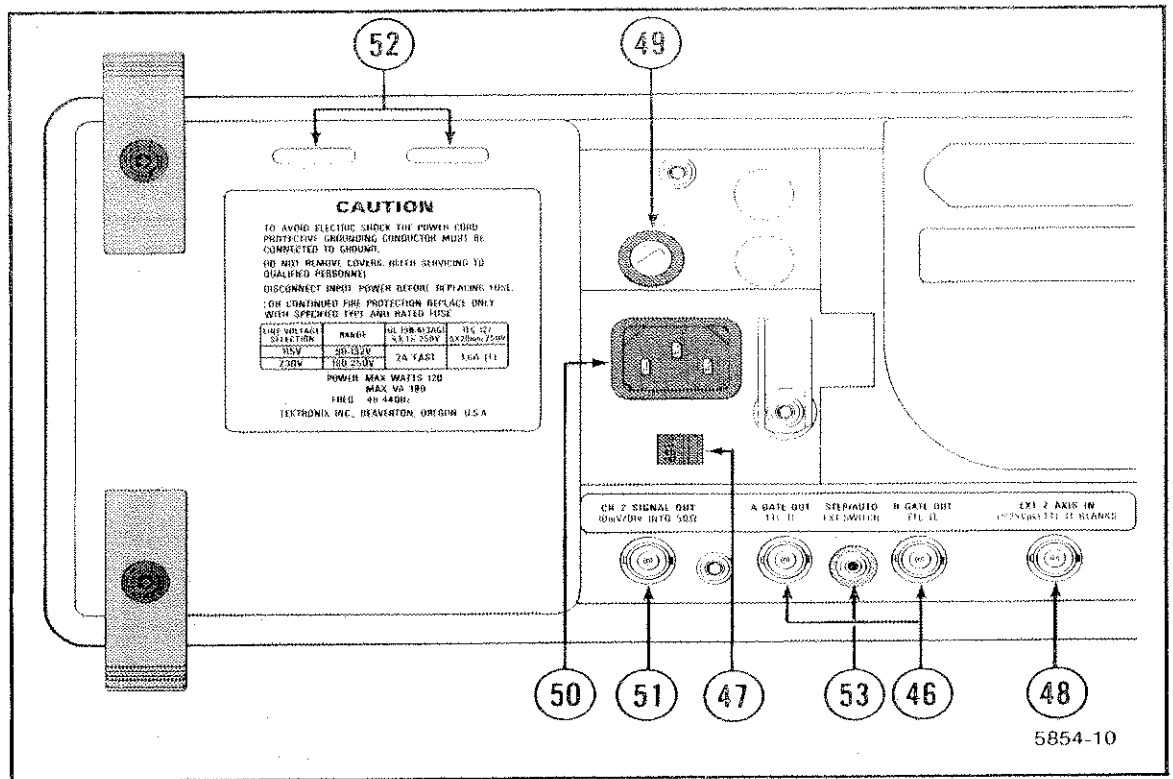

Figure 5-7. Rear panel controls and connectors.
Refer to Figure 5-7 for the location of items 46 through 53.
- ④⑥ **A GATE OUT and B GATE OUT Connectors** Provide TTL-compatible, positive-going gate signals that are HI during their respective sweeps and LO while the sweep is not running. When the A SEC/DIV switch is set to 5 ns per division, an output gate is present at both the A GATE OUT and the B GATE OUT connectors.
- ④⑦ **Line Voltage Selector Switch** Selects either 115 V or 230 V nominal ac-power-source voltage operation.
- ④⑧ **EXT Z-AXIS IN Connector** Provides an input point to apply external signals to intensity modulate the display.